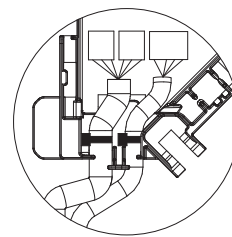

Fig. 10-15
- Make sure that the band securing the i-See sensor and signal receiver junction wires is positioned inside the connector box. (Fig. 10-15)